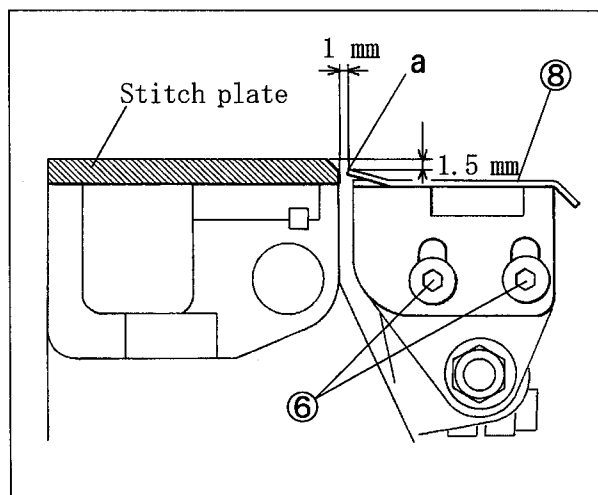

Fig. 9
- (5) Loosen the screw ⑨ to make the clearance between the tip “a” and the stitch plate to about 1 mm with the stop ⑩ when setting the folder ⑦. Tighten the screw ⑨ securely. (Figs. 9 and 10)
- (6) Install the supporting plate ⑪ on the cylinder of the machine ⑫ to support the fabric guide support ⑧.